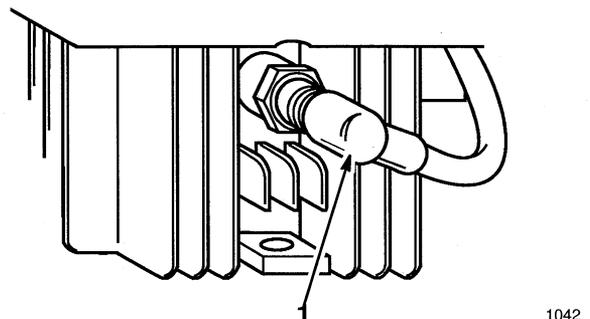

Figure 55
3. Remove spark plug (Fig. 55) and spin engine rapidly using starter to blow excess oil from the cylinder. Clean spark plug or replace if cracked, broken or electrodes are worn.
7. Reconnect spark plug wire (Fig. 55).